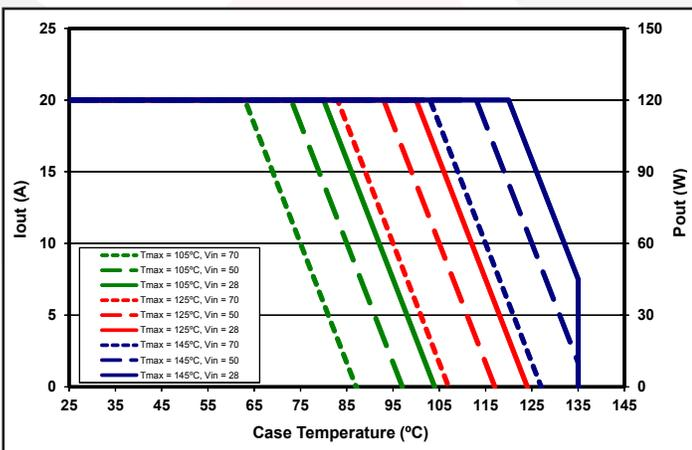

Figure 5: Output Current / Output Power derating curve as a function of Tcase and the Maximum desired power MOSFET junction temperature (see Note 14).
2. Derate output power to 50% of rated power at T_{case} = 135 °C (see Figure 5). 135 °C is above specified operating range.